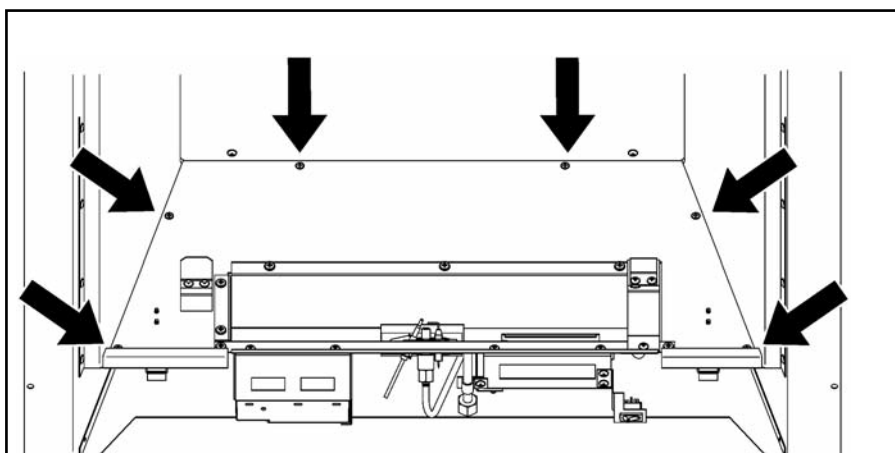

Figure 41. Burner removal
2. Detach the burner unit and support tray from the convection box by removing six screws (See figure 41). Lift the burner unit clear.